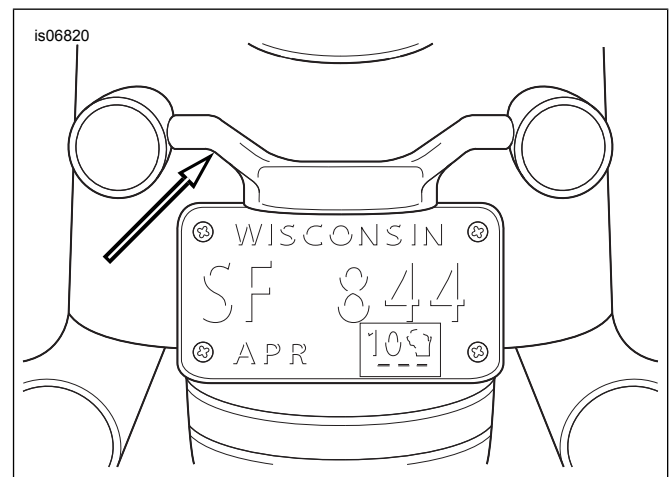

Figure 1. Light Bar
1. See Figure 1. Remove and retain the fasteners securing the light bar to the fender. The fasteners are located under the fender.